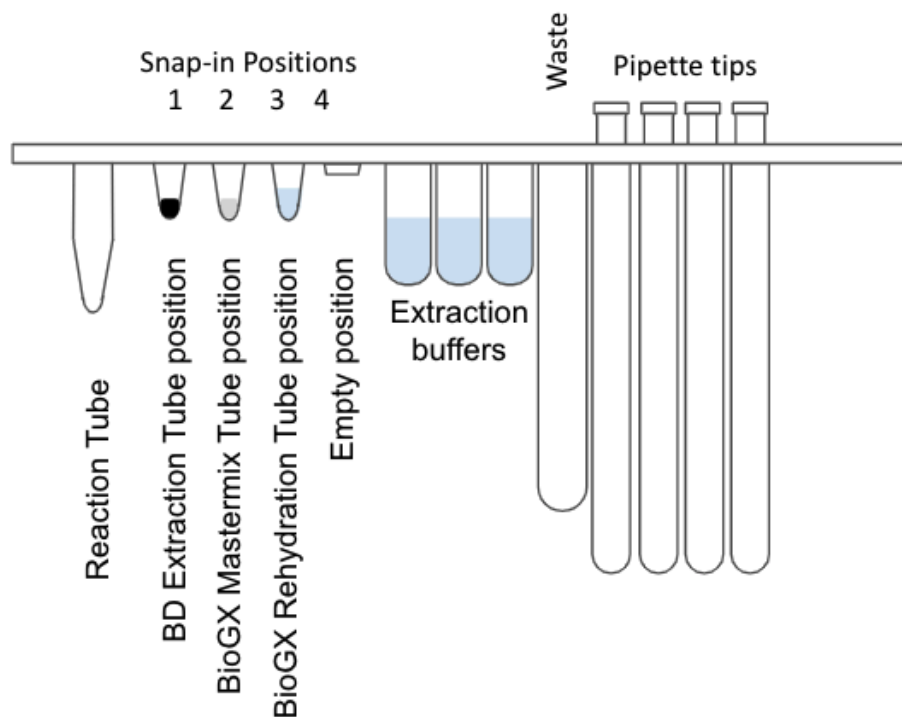

Figure 1. Diagram of BD MAX™ ExK™ 4-snap Unitized Reagent Strips.
2. Snap one BD MAX™ ExK™ TNA Extraction tube into snap-in position 1 (Snap-1) of each extraction strip (**Figure 1**).